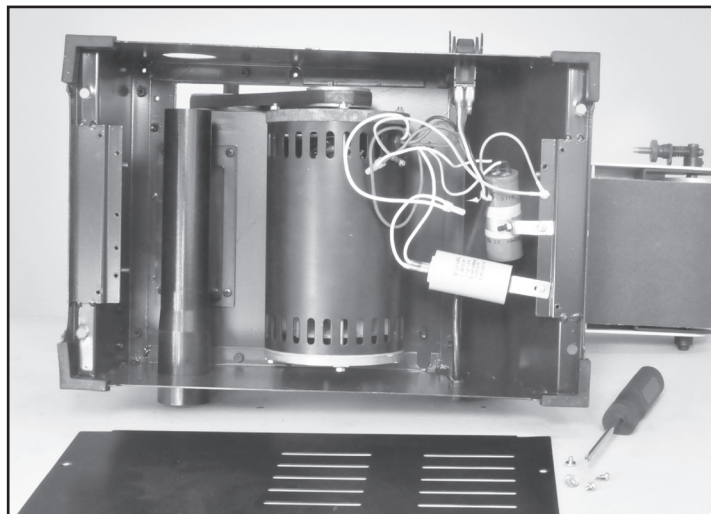

FIG. 23
7. Carefully tip the sander to one side to avoid any damage to the machine. Unscrew the four retaining Screws (#1) and remove the base cover. FIG. 23.